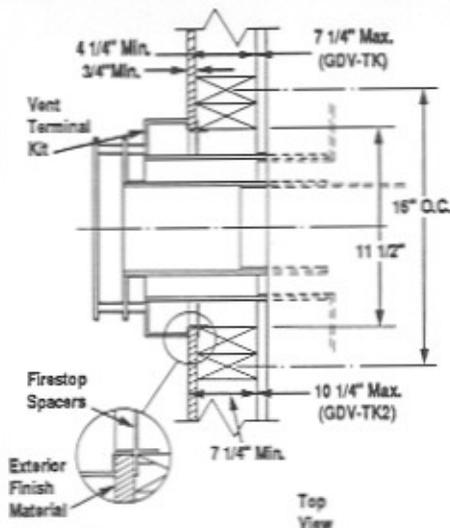
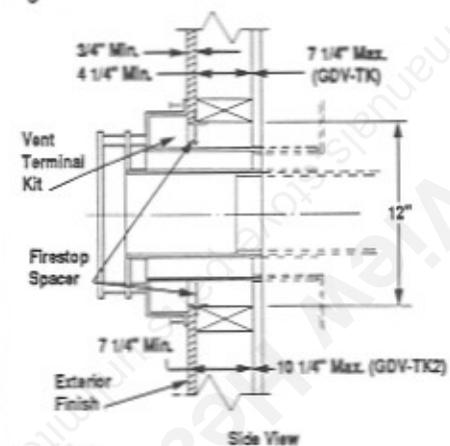

Figure 7
Figure 8
**Step 5.** Insert vent terminal kit through firestop assembly and connect to appliance outlet collars in manner illustrated in Figure 7. Do not fully engage the vent terminal kit until finished exterior wall surface is applied. At that time, the vent terminal kit can be fully engaged into the appliance collars and secured to the outside wall with 6d nails as shown in Figure 8. To seal kit to wall, silicone caulking should be applied around the entire perimeter of the kit.